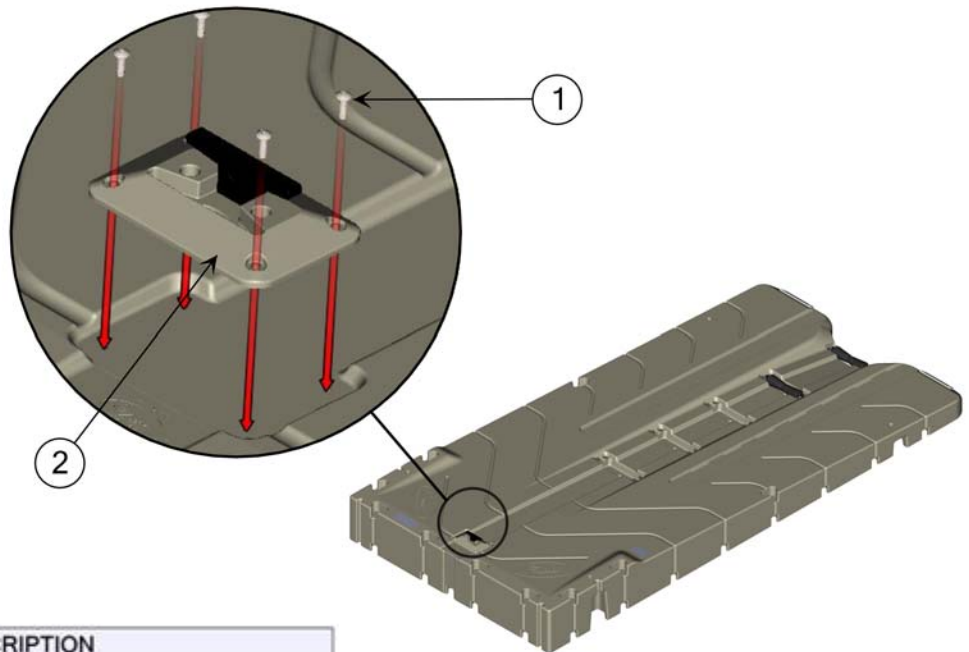

Figure 28.
1. Place flip-up cleat (Item 2) at designated location so that the cleat flips toward the entry of the EZ BoatPort (Figure 28).